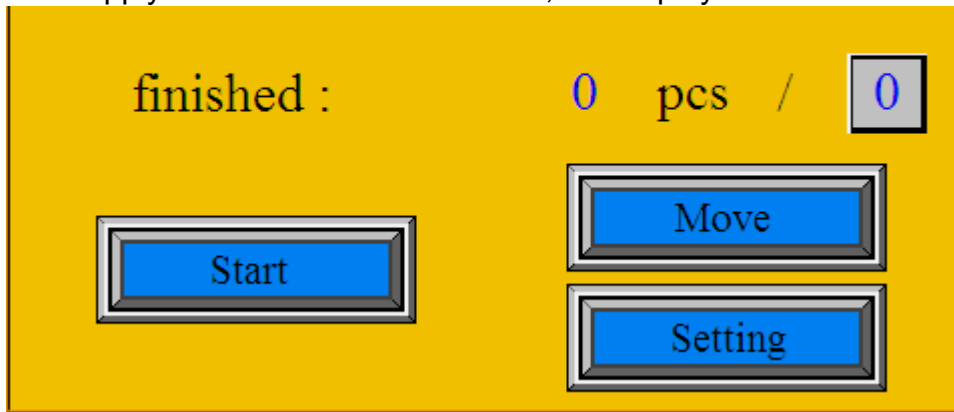
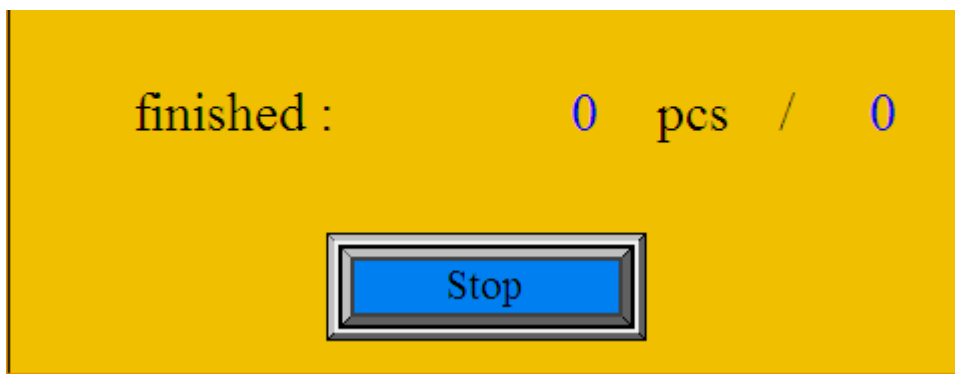

Fig. 1: The Main screen
Fig. 6: Working cycle screen
After the power supply switch has been turned on, the display shows the basic menu (fig.1)
You can either choose a preset program or create your setting. Adjust the movable left side guide (4) on the feeding table according to the paper size. Between side guides either remove or add magnetic strips (5) which prevent paper from deflection. Set the distance of the magnetic stop (11) on a delivery table according to the paper size. Press the "**Start**" icon on the screen (fig. 1). The machine starts up and the working cycle screen is displayed (fig. 6). There are a "**Stop**" icon and information about the number of processed sheets displayed on the screen.